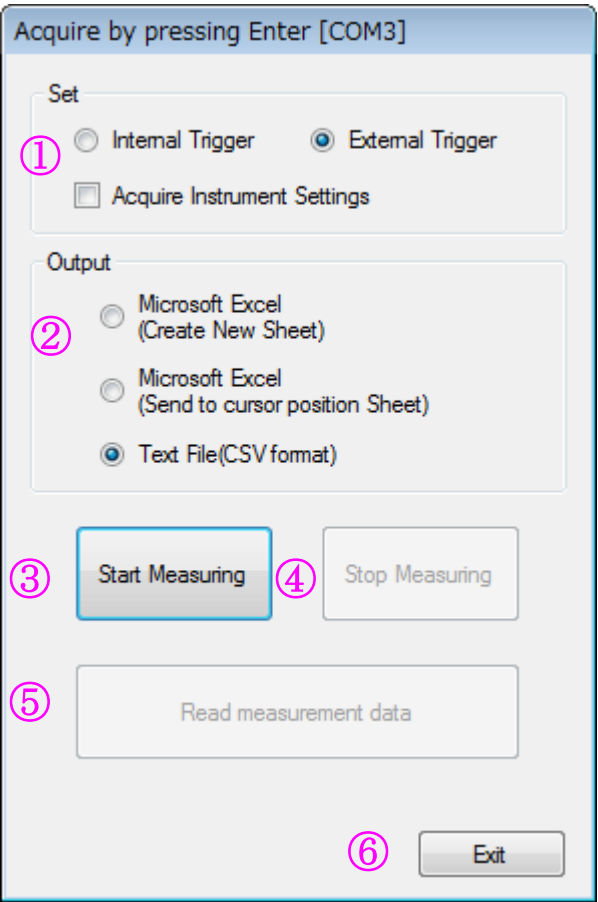

Fig 3-18. Acquire by pressing Enter
- (1) Select [Measure]-[Acquire by pressing Enter].
- (2) [Acquire by pressing Enter] screen will appear. (Fig 3-18)